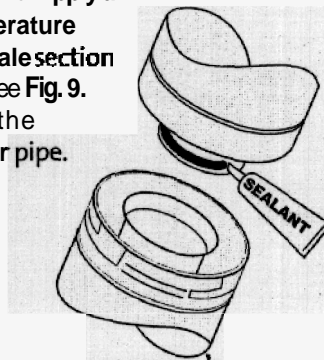

Figure 9. Seal each inner joint before joining pipe,
- Joint Sealing Requirement: Apply a 1/8" bead of high-temperature (750°F) sealant to the male section of the inner vent pipe. See Fig. 9. The cement should seal the inner pipe from the outer pipe.